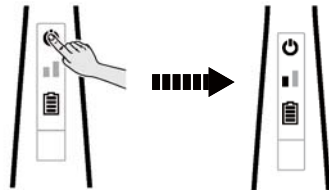

Fig.12
- Start the vacuum cleaner by touching the power icon once more. The speed bars will illuminate allowing for speed control. (Fig.12)